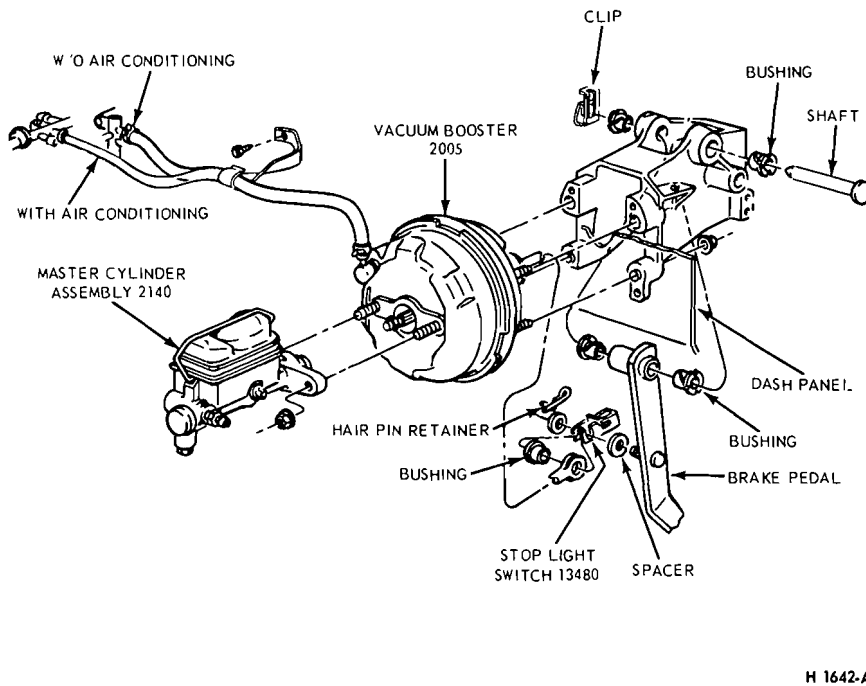

FIG. 10—Master Cylinder Installation—Power Brake—Ford, Mercury and Meteor
2. Position the master cylinder assembly over the booster push rod and onto the two studs on the booster assembly (Figs. 10 thru 14).
Disconnect the stop light switch wires at the connector. Remove the hairpin retainer. Slide the stop light switch off from the brake pedal pin just far enough for the switch outer hole to clear the pin, and then remove the switch from the pin and booster push rod. Be careful not to damage the switch during removal. Slide the booster push rod and the nylon washers and bushing off the brake pedal pin (Figs. 10 thru 14).
4. Remove the booster-to-dash panel attaching nuts or bolts (Figs. 10 thru 14). Remove the booster and bracket assembly from the dash panel, sliding the push rod link out from the engine side of the dash panel.
2. Mount the booster and bracket assembly to the dash panel by inserting the push rod or push rod link in through the hole and boot in the dash panel. Install the bracket-to-dash panel attaching lock nuts or bolts (Figs. 10 thru 14).
Install the inner nylon washer, the booster push rod, and the bushing on the brake pedal pin. Position the switch so that it straddles the push rod with the switch slot on the pedal pin and the switch outer hole just clearing the pin. Slide the switch completely onto the pin, and install the nylon washer as shown in Figs. 10 thru 14. **Be careful not to bend or deform the switch.** Secure these parts to the pin with the hairpin retainer. Connect the stop light switch wires to the connector, and install the wires in the retaining clip.
2. Remove the hairpin retainer. Slide the stop light switch off the brake pedal pin **just far enough for the switch outer hole to clear the pin**, and then lift the switch straight upward from the pin. **Be careful not to damage the switch during removal.** Slide the master cylinder or booster push rod and the nylon washers and bushing off the brake pedal pin (Fig. 10).
1. Apply a coating of SAE 10 Engine oil to the bushings and locate bushings in their proper places on the pedal assembly and pedal support bracket (Fig. 10).
3. Install the inner nylon washer, the master cylinder or booster push rod, and the bushing on the brake pedal pin. Position the switch so that it straddles the push rod with the switch slot on the pedal pin and the switch outer hole just clearing the pin. Slide the switch completely onto the pin, and install the nylon washer as shown in Fig. 10. **Be careful not to bend or deform the switch.** Secure these parts to the pin with the hairpin retainer.